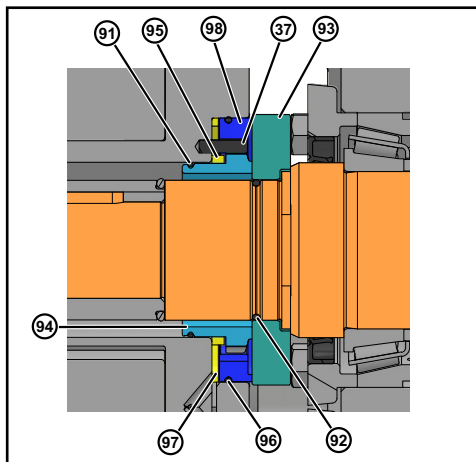

Figure 71 - Double Mechanical Seal
7. If a double mechanical seal is used, install the outer wave spring (Figure 71, item 97) in the body and the outer O-ring (item 96) in the outer seal groove (item 98). Place the outer seal in the pump body around the inner seal, aligning the notches in the outer seal with the stop pins in the body.